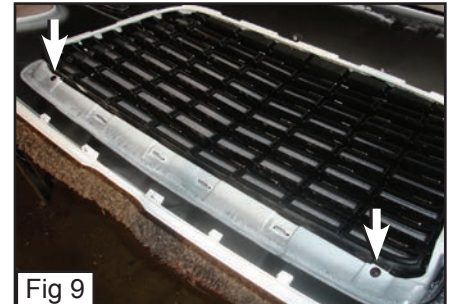

Fig 9
- Remove 2 Screws on the corners of the Grille Shell. (Fig. 9)